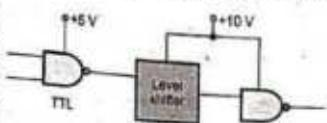

Fig. 3.5.3 Level shifter used as interface circuit
- The second alternative is to use level translator circuit, such as the 40104. This is a CMOS chip that is designed to take a low-voltage input (e.g. from TTL) and translate it to high voltage output for CMOS. Fig. 3.5.3 shows the circuit arrangement.